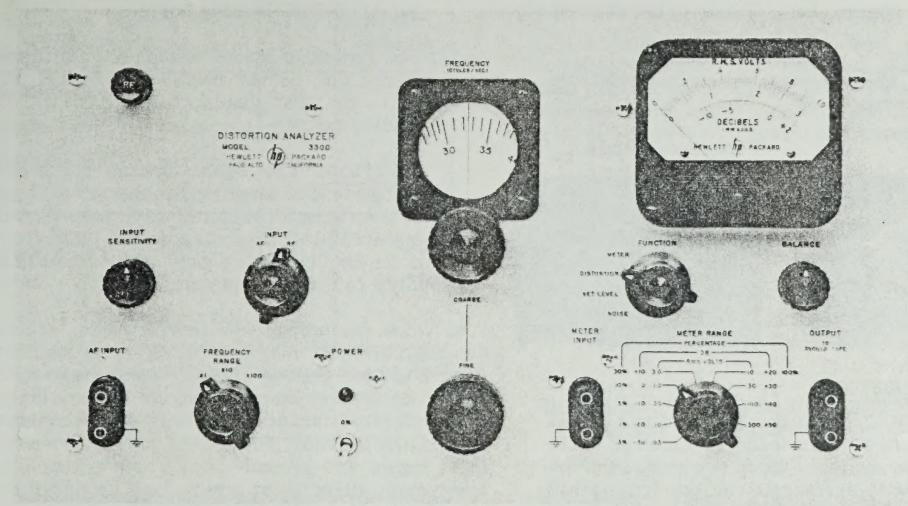

Figure 2-1. Front-Panel Controls, Model 330D
2-4. The functions of the controls and indicators are described below. The controls and indicators are shown in Figures 2-1 and 2-2.
(1) **RF control** (figure 2-1). Tunes to the carrier frequency.